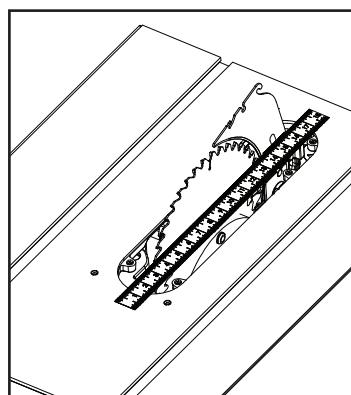

Figure 26
3. Using a straight edge ruler, align riving knife with blade body, see Figure 26.